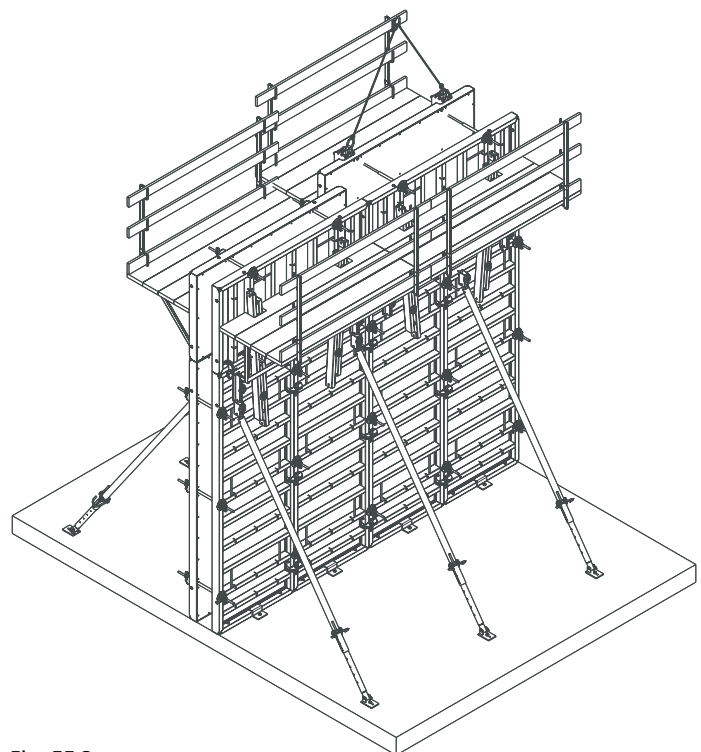

Fig. 55.2
**3.** Proceed with setting the other gangs along the second side in the same manner, connecting them with assembly locks (Fig. 55.2).